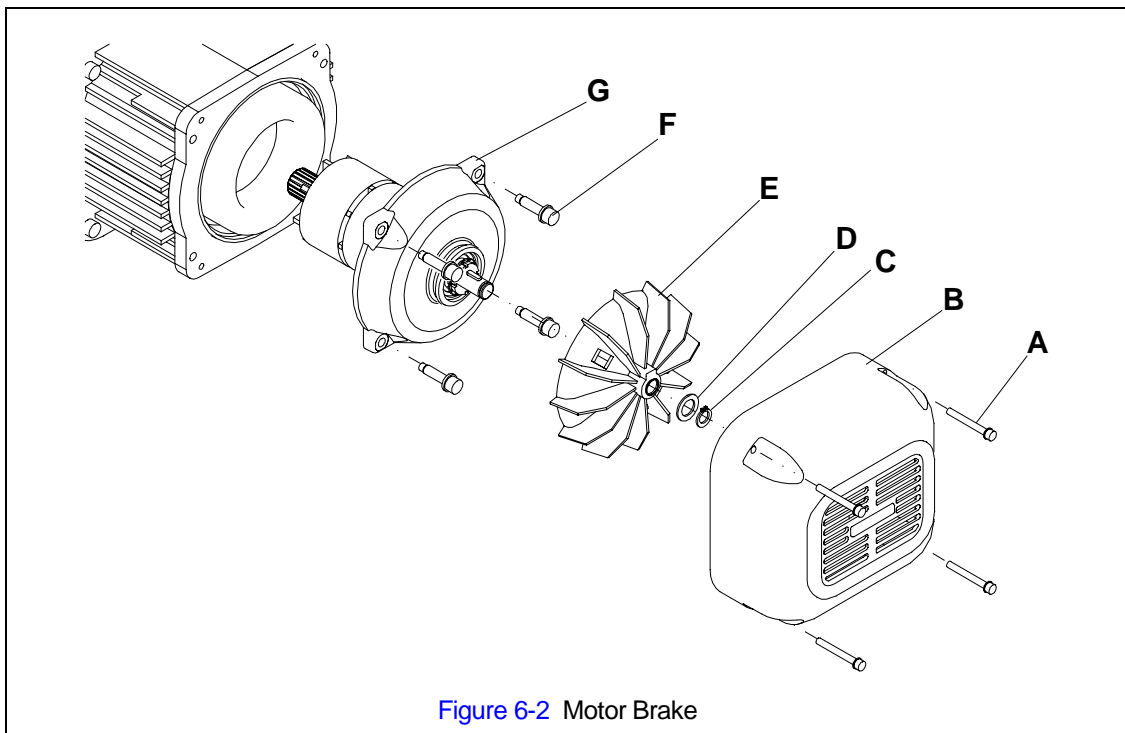

Figure 6-2 Motor Brake
- 2) Refer to Figure 6-2.
- 3) Remove the four Fan Cover bolts (A), Fan Cover (B), Fan snap ring (C), and Fan washer (D).
- 4) Pull the Fan (E) off the motor shaft using a wheel puller if necessary.
- 5) Remove the four Motor Cover Assembly bolts (F) and carefully pull the motor brake unit (G) out of the hoist.